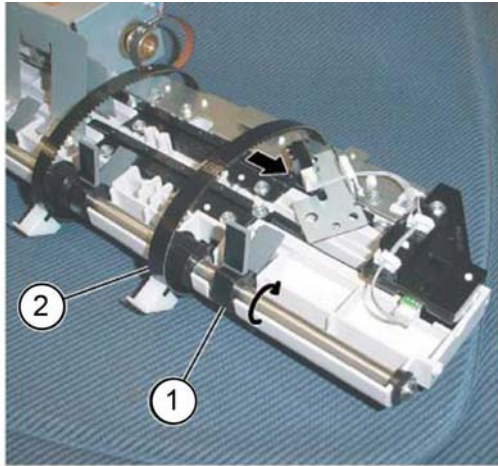

Figure 2 Eject belt removal
4. Remove the eject belt, Figure 2:
- a. Move the blades of the set clamp shaft (1) in the direction of the arrow.
- b. Remove the eject belt (2) in the direction of the arrow.